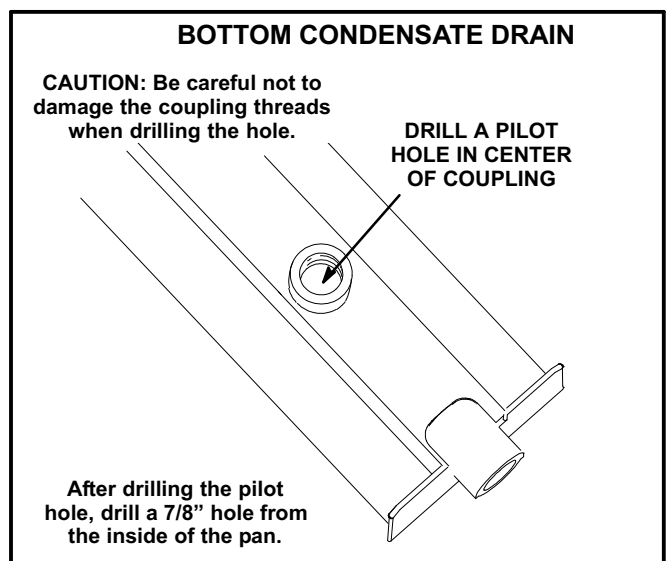

**FIGURE 9**
- 2- Lift the front edge of the drain pan and slide pan out of unit. See figure 9.